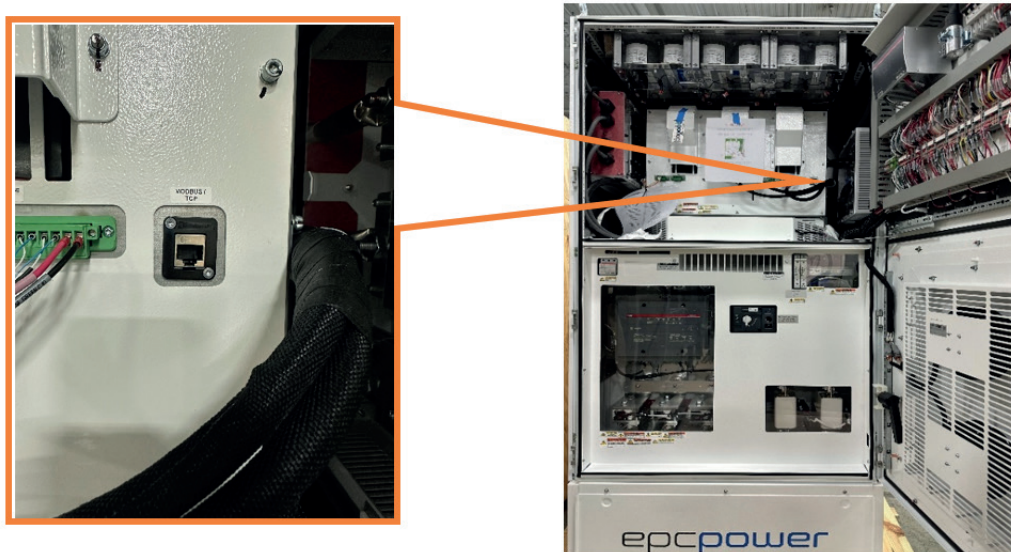

Figure 139. C-Cab XXL Modbus TC/IP Connection Location
- c. Terminate the shielded CAT 6 Ethernet cable in the location show in Figure 139.